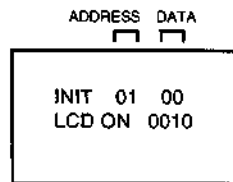

FIG. 1
3. Press both VOL. DOWN button on the set and Channel button (6) on the remote control for more than 2 seconds. ADDRESS and DATA should appear as FIG 1.